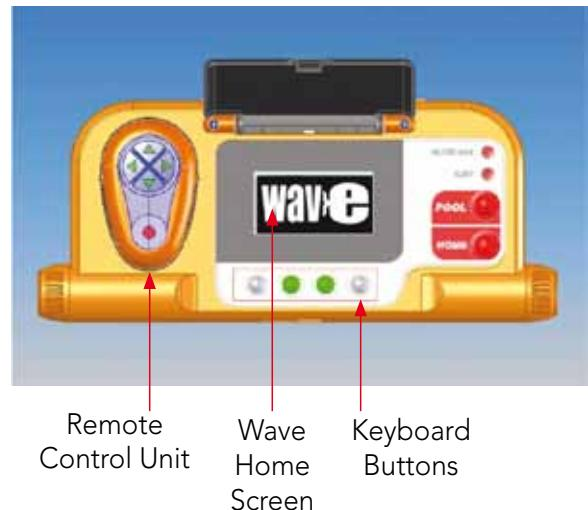

Figure 2: The Dolphin Wave robot MMI console
- In this user manual, the instruction press "**Start**" is performed by pressing both green buttons -  simultaneously on the MMI console (Figure 2).